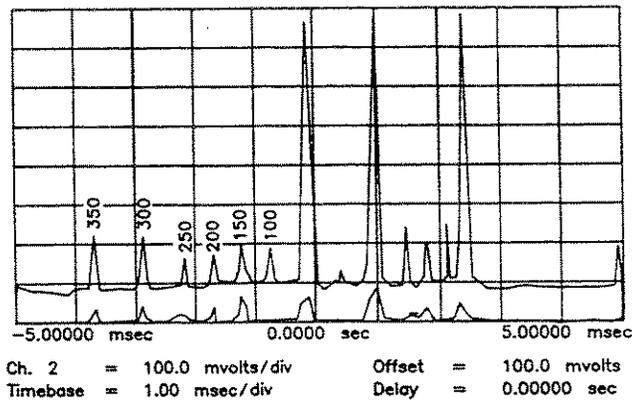

Figure 5-17. Frequency Response of Notch Filters, 765 MHz Setting.
- The oscilloscope display for nonadjusted Notch Filters is shown in Figure 5-17.
6. Observe the oscilloscope Chan 2 display (beat notes) and refer to Figure 5-17. Adjust A4L38 (100 MHz Notch Filter) until you see the 100 MHz beat note change on the display, then adjust the beat note for minimum amplitude.